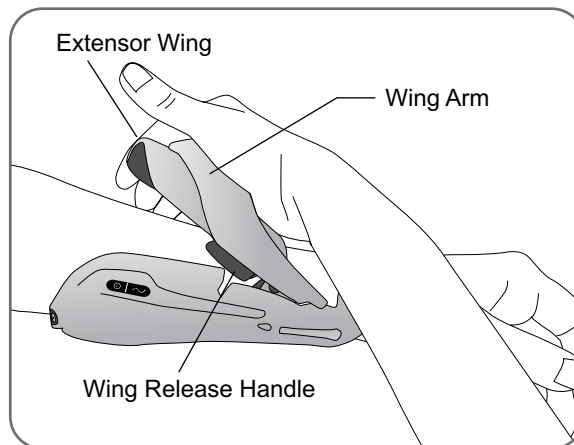

Figure 8-10: Closing the Extensor Wing
5. Pull the Extensor Wing out while pushing down on the Wing Arm. See Figure 8-10. Push down until the clicking sound stops.